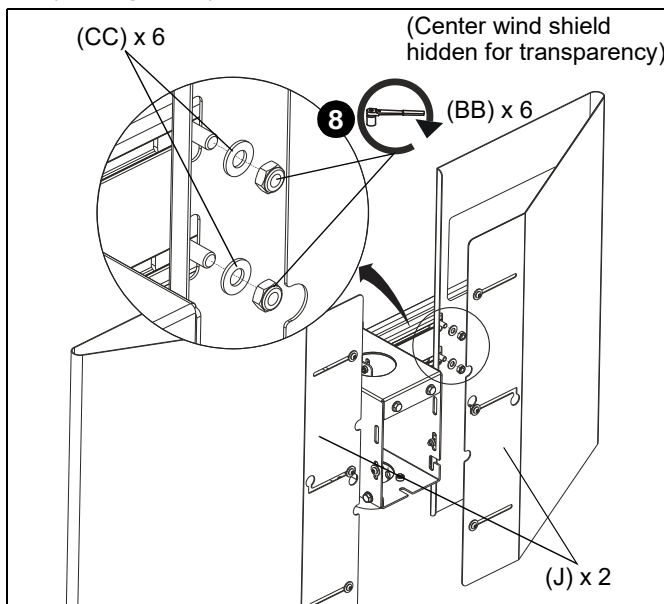

Figure 14
8. Use six 5/16-18 hex nuts (BB) and six 5/16" washers (CC) to secure six wind shield connectors to side wind shields (J). (See Figure 14)